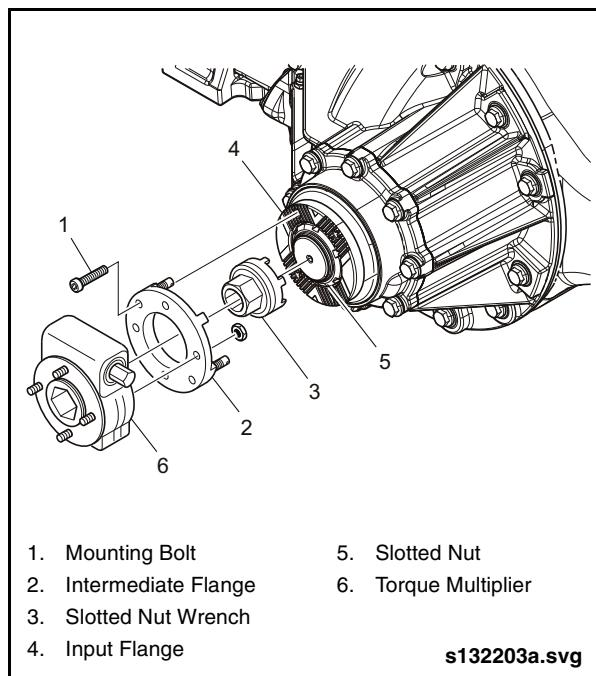

Fig. 2-31: Mounting Input Flange Tool
- a. Position Intermediate Flange (Item 43 from Special Tools List) on input flange and secure with mounting bolts. See "Fig. 2-31: Mounting Input Flange Tool" on page 33.